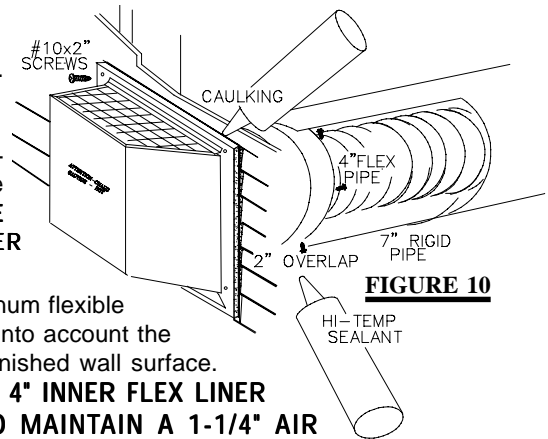

FIGURE 10
4. Install the firestop / wall plate to the finished interior wall, maintaining a 1" clearance to combustibles. Insert the liners through the firestop. Holding the air terminal (lettering in an upright, readable position), secure to the exterior wall. Make weather tight by sealing with caulking (not supplied). **FIGURE 10. THE AIR TERMINAL MOUNTING PLATE MUST NOT BE RECESSED INTO THE EXTERIOR WALL OR SIDING.**